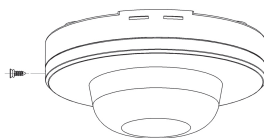

Figure 1
- Please loose the screws on the side. (Refer to figure 1)